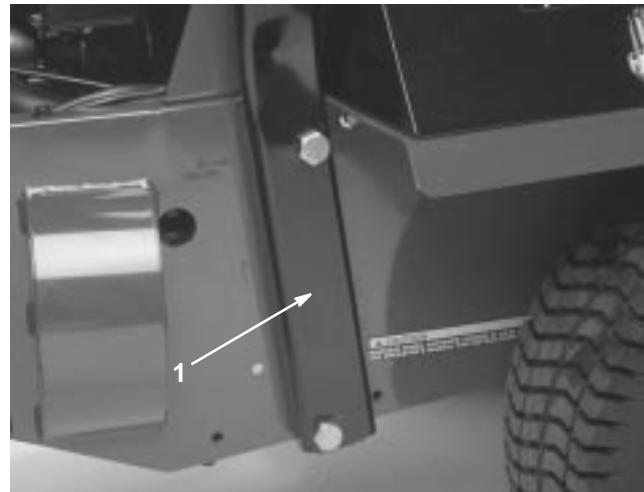

Figure 15
1. Lower roll bar onto frame, aligning mounting holes as shown in Figure 15.
2. Secure roll bar to frame with 4 bolts (3/4 x 5-1/2 in.), lock washers, and nuts (Fig. 15). Tighten securely.